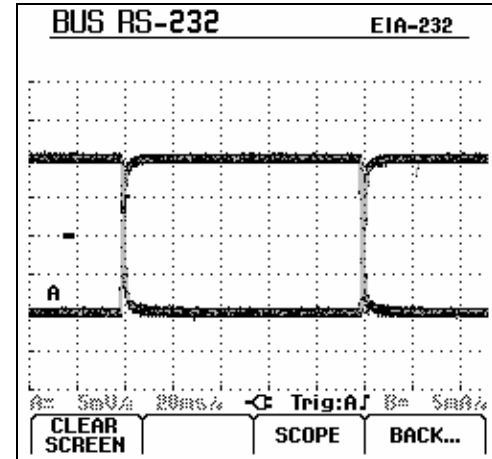

Figure 4-4. Eye Pattern Screen
-  In the main screen select eye pattern mode. You will see a screen like figure 4-4.